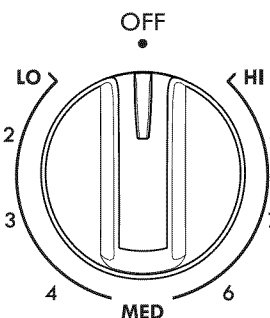

Figure 8: Single radiant element
- Push in and turn the surface control knob in either direction to the desired setting (See Figure 8).